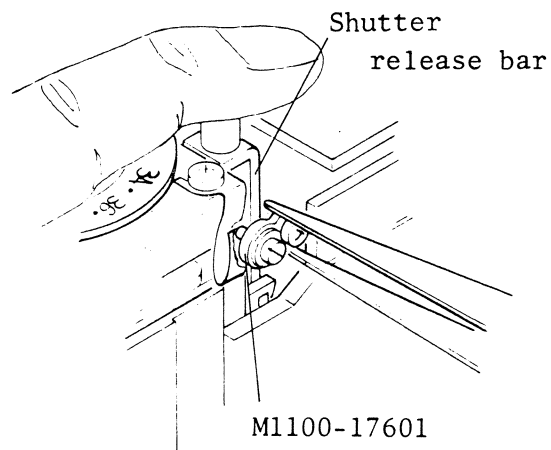

Fig.5
5. Hold the M1100-17601 selftimer release lever with tweezers and put it on shoulder of the shutter release bar (Fig. 5)